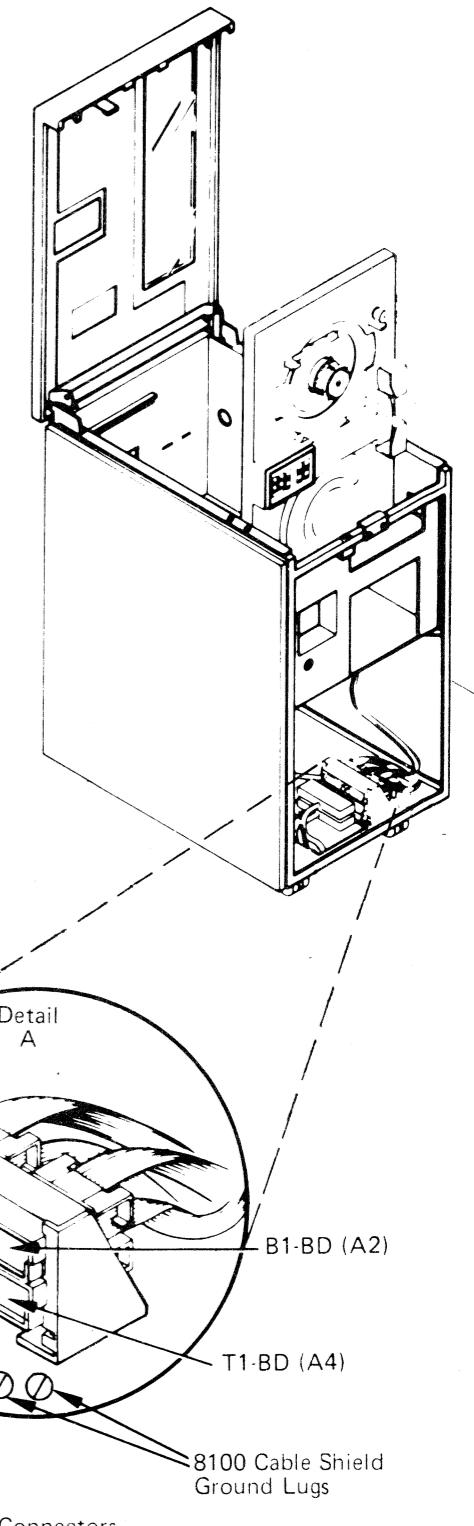

Figure 17. Host System to 8809 Mod 1A Cables
- 58. Refer to Figure 17, Detail A. Connect the light gray cable connector flanges to the 8809 tailgate connectors.
- a. For Model 1A on 8100 systems, connect the bus and tag cables as shown in Figure 17, Detail A. Connect the light gray cable connector flanges to the 8809 tailgate connectors.
- b. Connect the shield to the ground lugs as shown in Figure 17, Detail A. Refer to appropriate documentation for cable connections at host system.